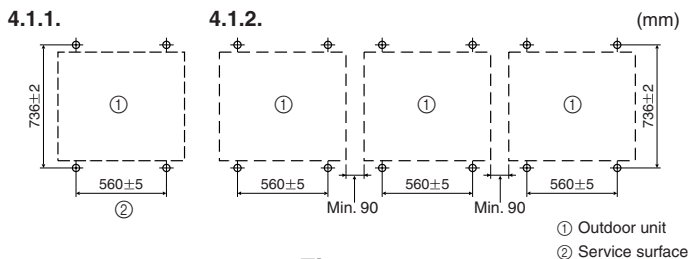

Fig. 4-1
4.1.1. When installing a single outdoor unit (Fig. 4-1)